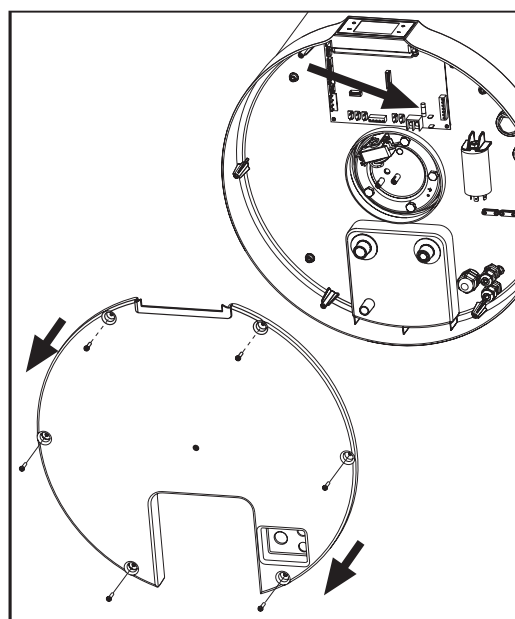

fig. 43
- Remove the bottom cover by first undoing the locking screws (fig. 43).